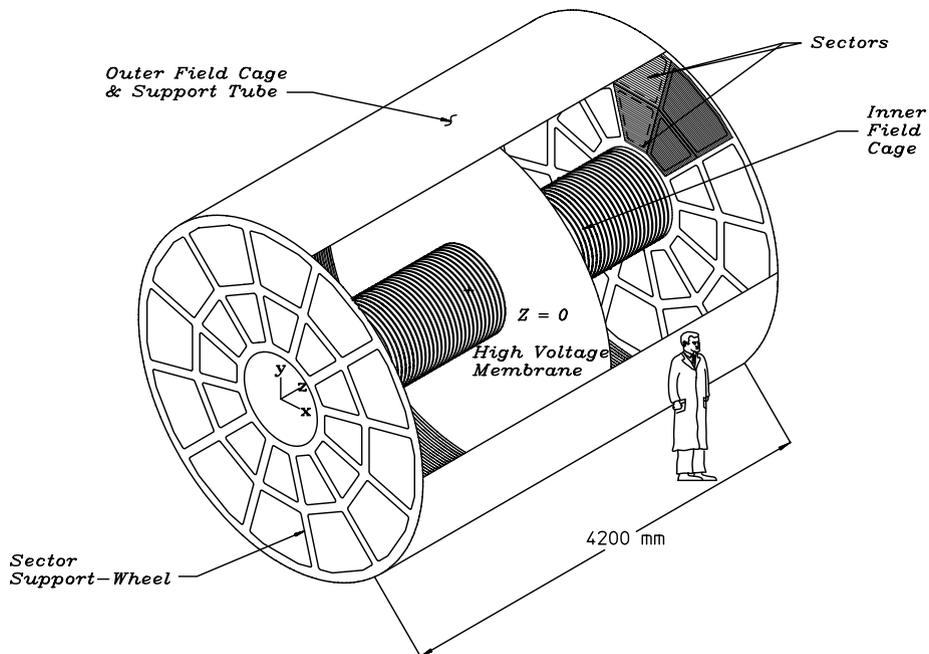

Fig. 1. The STAR TPC surrounds a beam–beam interaction region at RHIC. The collisions take place near the center of the TPC.
The STAR TPC is shown schematically in Fig. 1. It sits in a large solenoidal magnet that operates at 0.5 T [6]. The TPC is 4.2 m long and 4 m in diameter. It is an empty volume of gas in a well-defined, uniform, electric field of ≈ 135 V/cm. The paths of primary ionizing particles passing through the gas volume are reconstructed with high precision from the released secondary electrons which drift to the readout end caps at the ends of the chamber. The uniform electric field which is required to drift the electrons is defined by a thin conductive Central Membrane (CM) at the center of the TPC, concentric field-cage cylinders and the readout end caps. Electric field uniformity is critical since track reconstruction precision is submillimeter and electron drift paths are up to 2.1 m.